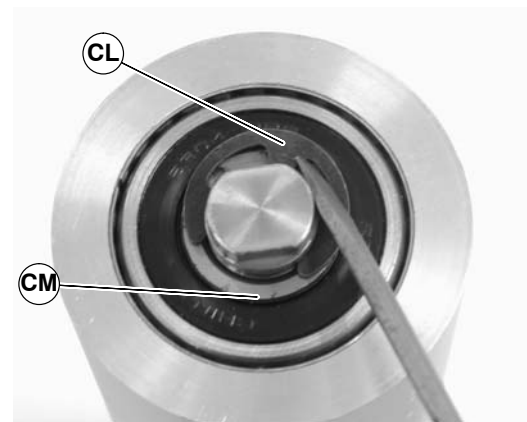

Figure 92
6. Remove the pulley shaft assembly: remove the clip ring (CL of Figure 92) and washer (CM) from one side of the pulley assembly.